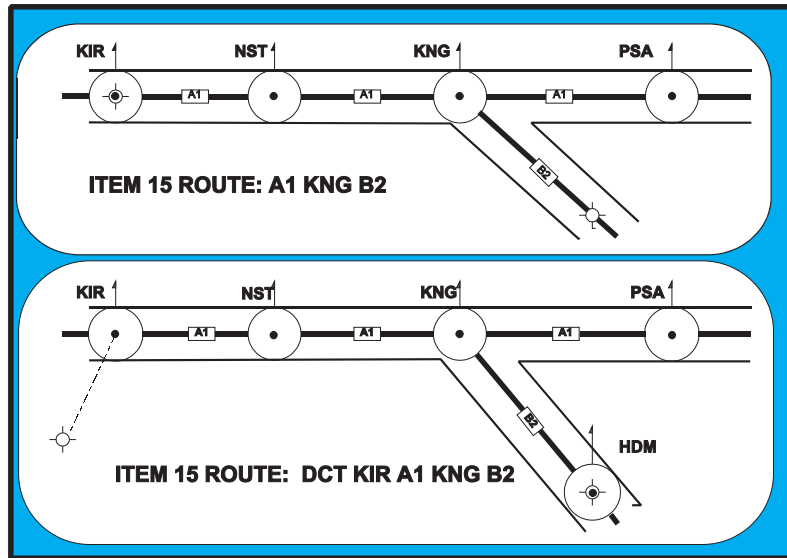

Figure 12.2 Use of DCT
- If a **departure airfield is located or connected** to the ATS route then the **coded designator** of that route will be the first entry. If it is **not on** or **connected to** the ATS route the first entry will be **DCT** followed by the **joining point**, followed by the **designator** of the ATS route. (*Figure 12.2*)